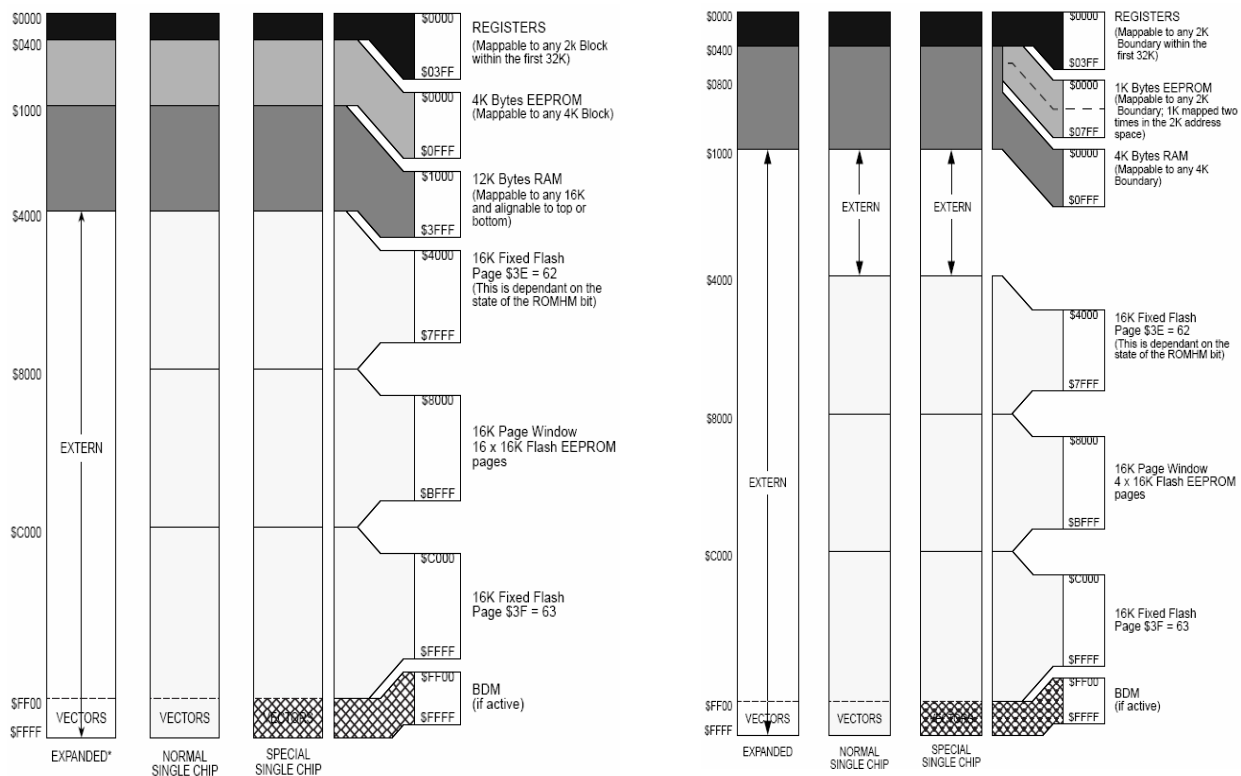

Figure 1. HCS12 Memory Map Examples (MC9S12DP256B vs. MC9S12DJ64)
- HCS12 memory map examples like that shown in Figure 1 for the MC9S12DJ64 and MC9S12DP256B.